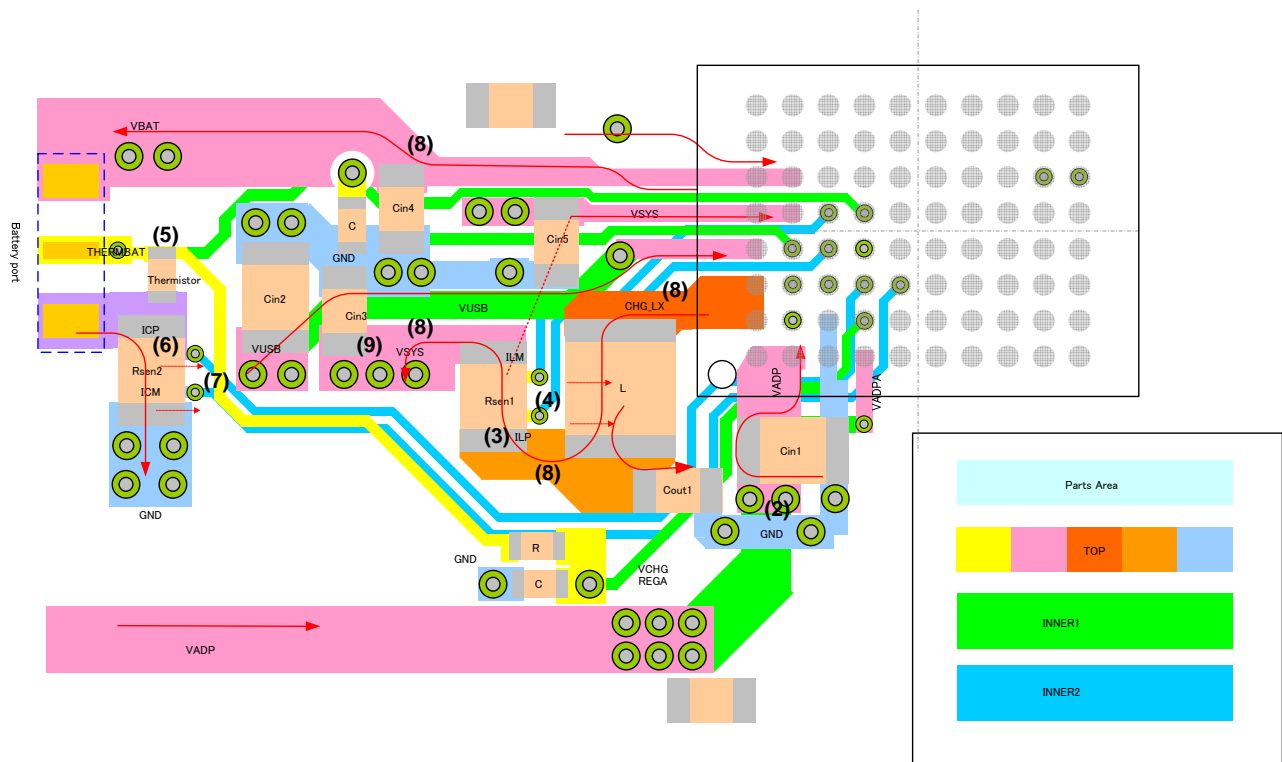

Fig. 1-4: Example of Charger Block Pattern (Top Layer)
- (1) Place the parts to minimize the switching current loop. (Figure 1-4: red line)
- (2) Place “VADP” capacitor as close as possible to RC5T619-1xxx, and route the line to RC5T619-1xxx short and widely in order to minimize resistance.
- (3) Because “ R_{SEN1} ” is the resistance which fixes accuracy of the current, use the high accuracy it as possible. (Refer to the “Recommended External Parts List” on P.11)